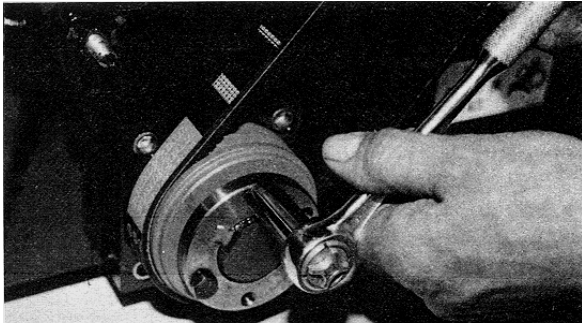

FIGURE 35
c) Insert the 1/4 inch diameter cap screws into the tapped holes in the pulley. Tighten progressively until the bushing applies tension to the pulley. FIGURE 35.